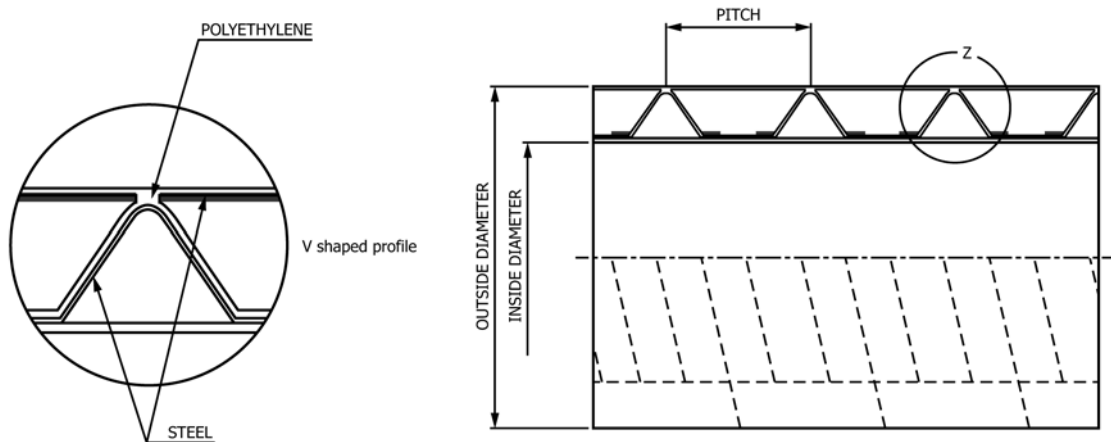
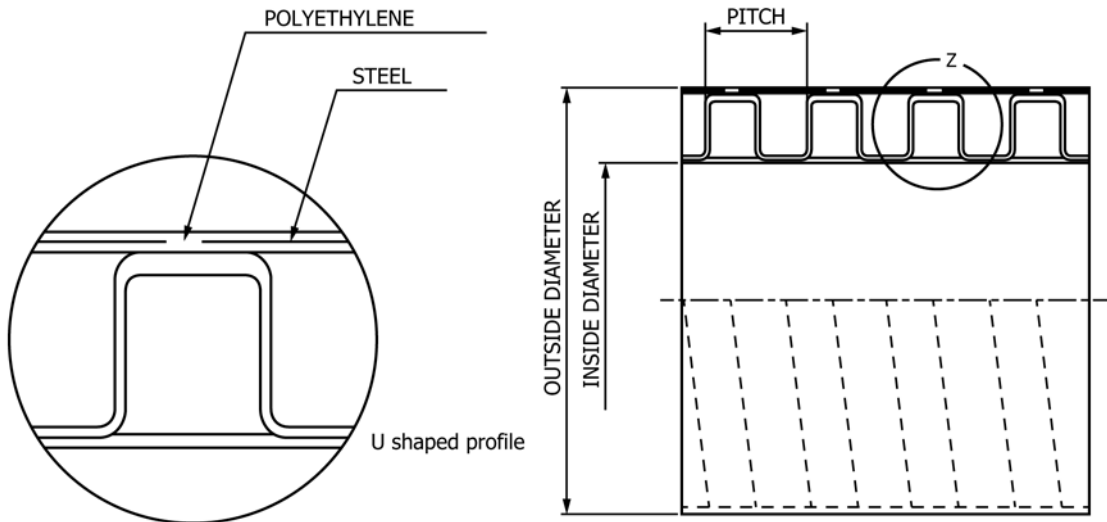

FIG. 3 Triple-Wall Steel Reinforced Corrugated Polyethylene Pipe – Type IIA
FIG. 4 Triple-Wall Steel Reinforced Corrugated Polyethylene Pipe – Type IIB
3.2.3 *triple-wall, adj*—polyethylene corrugated pipe with steel reinforcing profiles either helical V-shaped profiles or U-shaped profiles encapsulated within the corrugations and with steel reinforcing helical flat profiles encapsulated within the exterior polyethylene layer and with a closed channel (polyethylene layer) on the inside of the pipe (See Fig. 3 and Fig. 4).